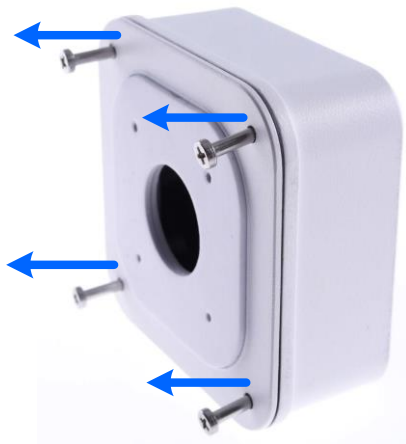

Figure 1-58
6. Secure the camera to the box cover with 4 short screws, as illustrated in No. 6, *Figure 1-58*.
7. Thread the Ethernet cable through the PG21 conduit connector and the wall box, as shown in No. 7, *Figure 1-58*. Then connect the cable to the camera. To waterproof the Ethernet cable, see *1.8 Waterproofing the Cable*.
8. Rotate the plastic ring to secure the conduit connector to the wall box. Screw in the cap, as shown in No. 8, *Figure 1-58*.
9. Screw the box cover to the wall box, as shown in No. 9, *Figure 1-58*.